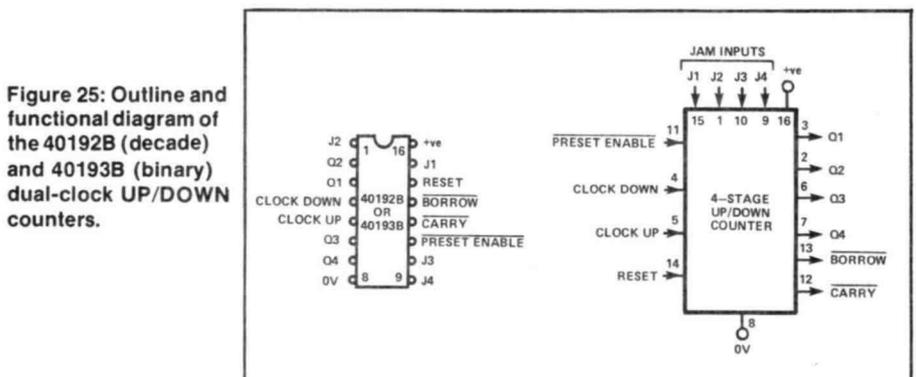

Figure 25: Outline and functional diagram of the 40192B (decade) and 40193B (binary) dual-clock UP/DOWN counters.
The 40192B and 40193B are presettable, dual-clock up/down counters; the 40192B is a decade counter with BCD outputs, and the 40193B is a hexadecimal counter. The ICs have identical outlines and functional diagrams, as shown in **Fig. 25**. A 'high' on the RESET terminal asynchronously sets all four outputs to zero. A 'low' on the PRESET ENABLE terminal asynchronously sets the outputs to the values set on the four JAM (J) input terminals.